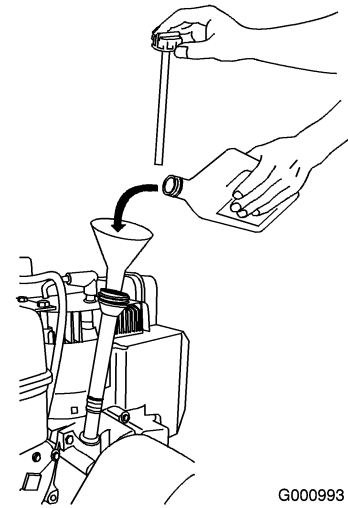

Figure 13
1. Remove the dipstick and **slowly** pour oil into the oil fill tube to raise the oil level to the Full mark on the dipstick. **Do not overfill.**(Figure 13).